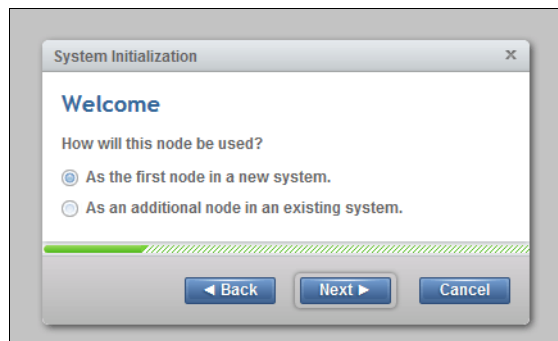

Figure 2-17 System initialization node usage
6. Click **Next**, as shown in Figure 2-17.